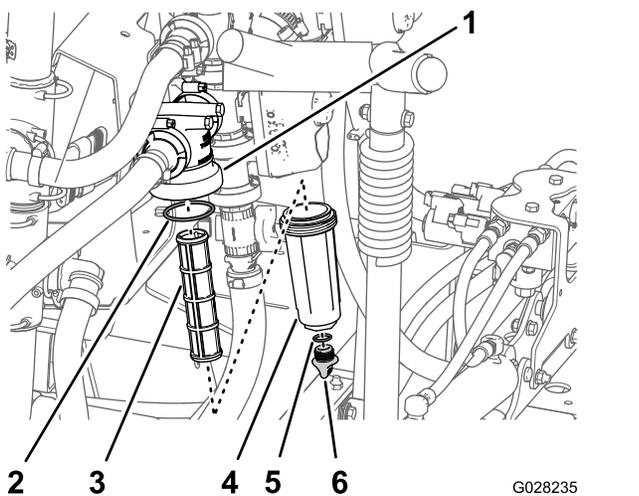

Figure 111
2. Align a drain pan under the pressure filter (Figure 111).
3. Rotate the drain plug counterclockwise and remove it from the bowl of the pressure filter (Figure 111).
4. Rotate the bowl counterclockwise and remove it from its filter head (Figure 111).
5. Remove the old pressure-filter element (Figure 111).
6. Check the O-ring for the drain plug (located inside the bowl) and the O-ring for the bowl (located inside the filter head) for damage and wear (Figure 111).
7. Install the new pressure-filter element into the filter head (Figure 111).
8. Install the bowl onto the filter head and tighten by hand (Figure 111).
9. Install the plug into the bowl and tighten by hand (Figure 111).